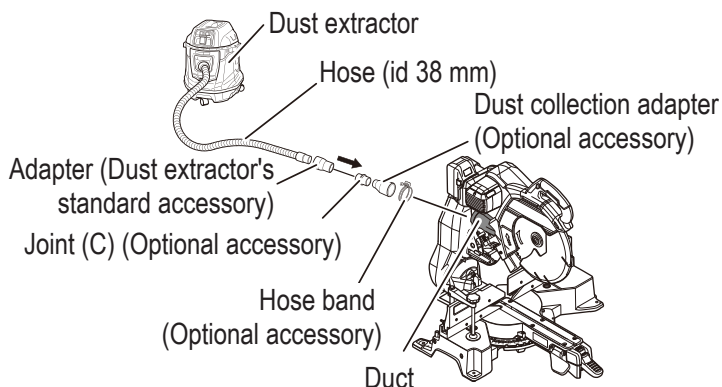

Fig. 39
16. Connecting the dust extractor (Sold separately) (**Fig. 39**)
Connection is done by pressing in the direction of the arrow. (**Fig. 39**)